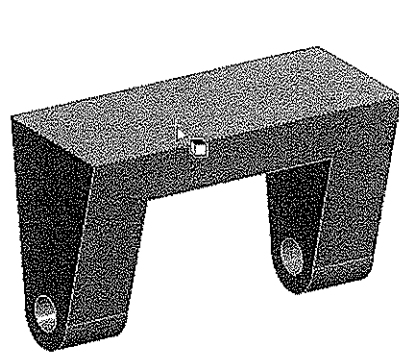

Figure 9-68 Face selected for applying the Fixed constraint
9. Select the top face of the model in the Graphics screen to apply Fixed support, refer to Figure 9-68.